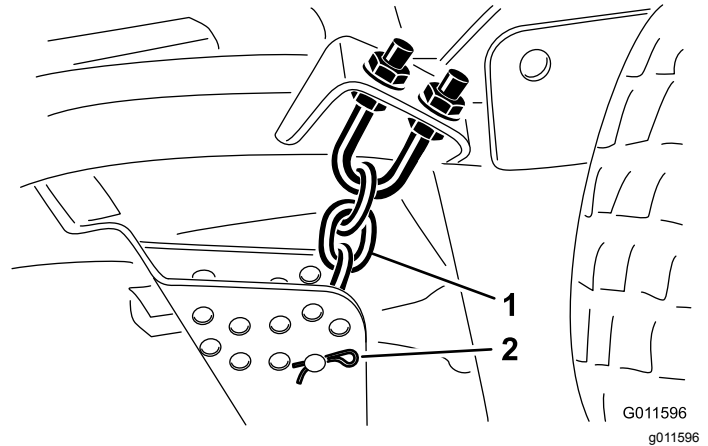

Figure 21
8. Remove the hairpin cotter and clevis pin securing the height-of-cut chains to the rear of the mower deck (Figure 21).